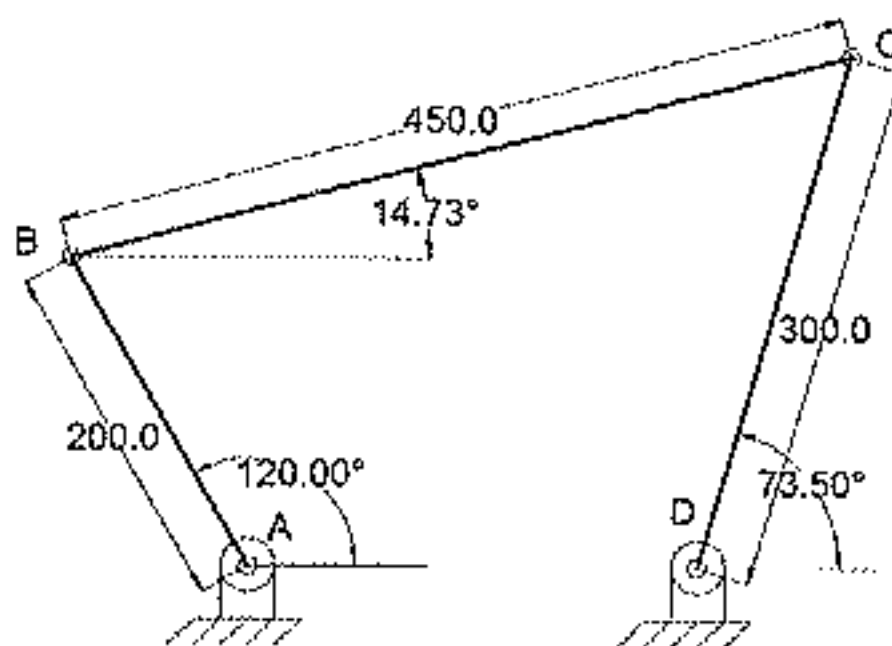

Figure 1
- Figure 1 shows the configuration diagram for a four bar mechanism. Link AB has a angular velocity of 10 rad/s and an angular acceleration of 60 rad/s² in the anti-clockwise direction. Given: $V_{BA} = 2$ m/s, $V_{CB} = 1.69$ m/s and $V_{CD} = 2.25$ m/s.